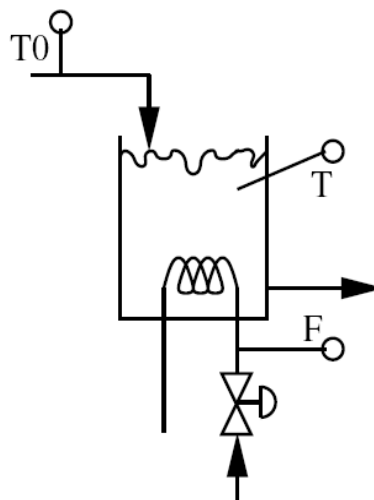

Figure 4: Liquid heating tank system
- [b] For the following system (Figure 4), steam is used to heat the liquid in a constant volume tank. The available measurements include the temperature of the liquid in the tank, the temperature of the feed flowing into the tank, and the steam flow rate. The steam valve can be manipulated. It is desired to regulate the temperature of the exit flow from the tank at a constant value.